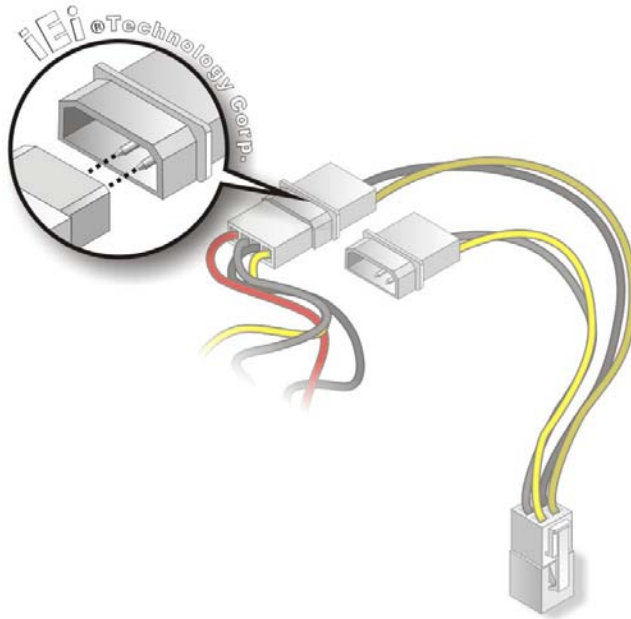

Figure 4-10: Connect Power Cable to Power Supply
Step 3: **Connect Power Cable to Power Supply.** Connect one of the 4-pin (1x4) Molex type power cable connectors to an AT power supply. See **Figure 4-10.**